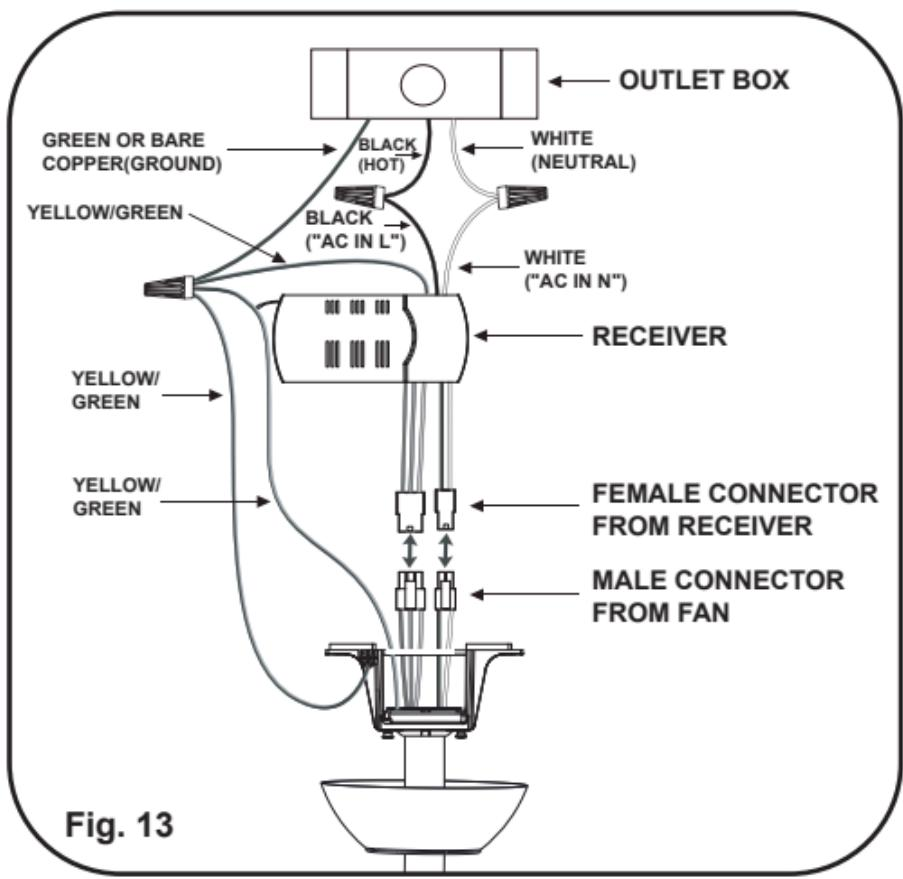

Fig. 13
**Step 2.** Connect the male connectors from fan to the female connectors from the receiver. (Fig.13)
**Step 3.** Receiver to ceiling outlet box Connections: Connect the WHITE wire (Neutral) from the outlet box to the WHITE wire marked 'AC in N' from the receiver. Connect the BLACK wire (Hot) from the outlet box to the BLACK wire marked 'AC in L' from the receiver. Secure all wire connections with the plastic wire nuts provided. (Fig.13)
**Step 4.** If your outlet box has a GROUND wire (Green or Bare Copper) connect this wire to the Hanger Ball, Hanger Bracket and Receiver Ground wires. If your outlet box does not have a Ground wire, then connect the Hanger Ball, Hanger Bracket and Receiver Ground wires together. Secure wire connection with the plastic wire nut provided. (Fig. 13)